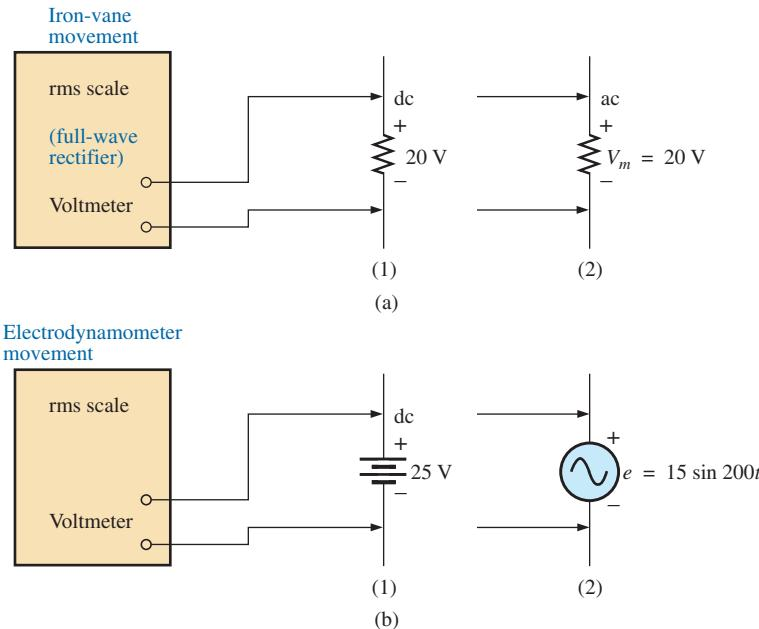

FIG. 13.78
**EXAMPLE 13.25** Determine the reading of each meter for each situation in Fig. 13.78(a) and (b).
**Solution:** For Fig. 13.78(a), situation (1): By Eq. (13.36),
For Fig. 13.78(a), situation (2):
For Fig. 13.78(b), situation (1):
For Fig. 13.78(b), situation (2):